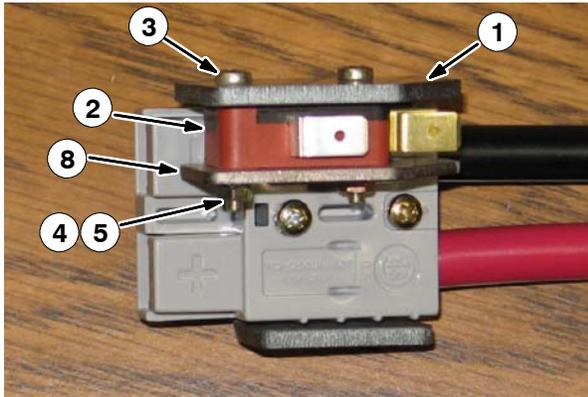

FIG. 2
- Use two pan screws (3), two lock washers (4), and two hex nuts (5) to install the switch (2) and the plate (8) onto the connector bracket (1). Refer to Fig. 2.